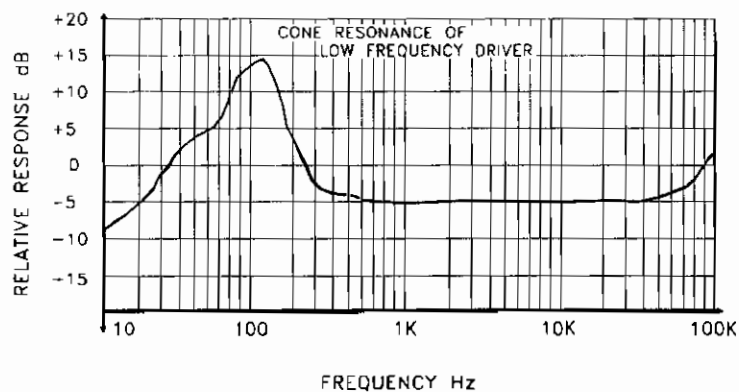

FIG 8. TESTING SPEAKER SYSTEMS AND IMPEDANCE NETWORKS.
A. Connect equipment as shown in Test Set-Up in FIG. 8 for frequency response measurement except that the signal input to the speaker or impedance network is monitored. The oscilloscope may be used to verify that this instrument is not in a clipping condition.
D. In speaker testing, a pronounced increase of voltage will occur at some low frequency. This is the resonance frequency of the speaker systems(FIG. 8). The speaker enclosure will modify the results obtained from the same speaker without an enclosure. A properly designed enclosure will produce a small peak on each side of the peak obtained without an enclosure. the enclosure designer can use the response characteristics to evaluate the effects of varying port sizes, damping materials and other basic enclosure factors.
- 1) Connect a variable resistor in series with the impedance network as shown in FIG. 8